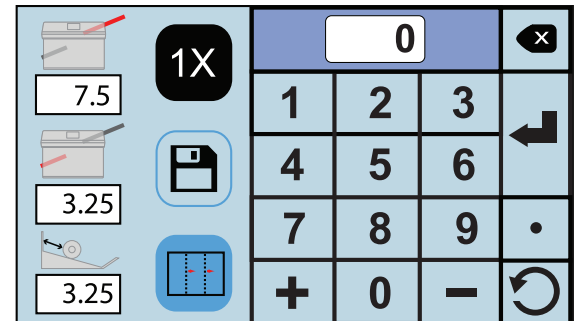

Fig. 33
4. Follow the same procedures as the custom fold settings to adjust the folds (Fig. 33). Press the Test icon  to confirm the change is correct. If the settings are good press the Save Icon  to save the new settings. A save confirmation will be displayed.